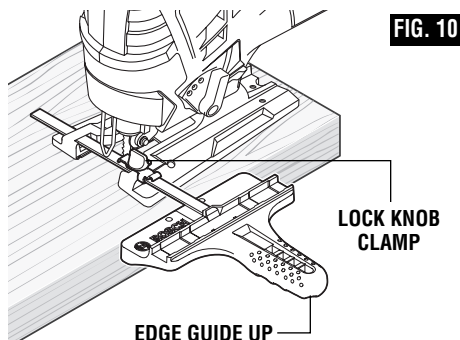

FIG. 10
This (JA1010) accessory is available at an extra cost. It is used for fast and accurate straight and circle cutting (Fig. 10).
1. Insert bar of guide through lock knob clamp, then through the slots provided in foot, from either side of foot with the edge guide facing UP (Fig. 10).
2. Hook lock knob clamp onto edge of footplate, adjust fence to desired width, and securely tighten lock knob clamp (Fig. 10).